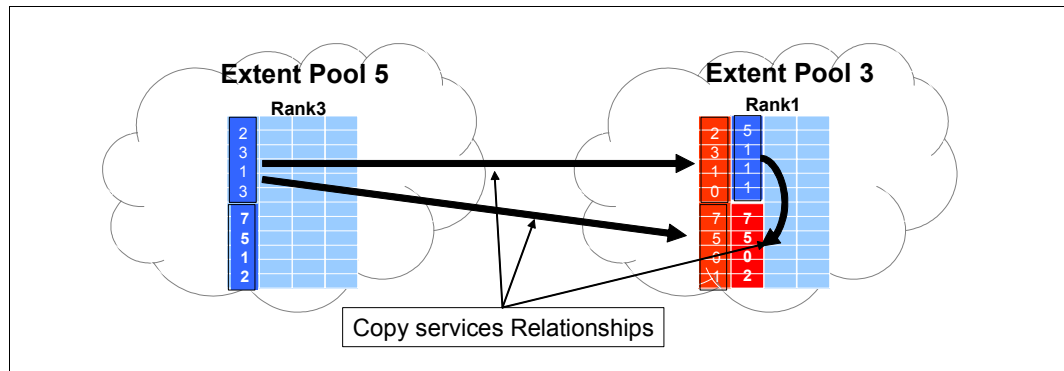

Figure 10-6 Example of Copy Services relationship between LSSs in the same storage image
- ▶ Multiple volumes in one extent pool or one rank can be in the same or different LSSs, as shown in Figure 10-6 on page 198.
- ▶ Multiple volumes in different extent pools and on different ranks can be in the same LSS, also as shown in Figure 10-6.
- One extent pool can contain volumes/LUNs that are in different LSSs, as shown in Figure 10-6.
- LSSs can have a many-to-many Copy Services relationship as shown by the arrows in Figure 10-6.